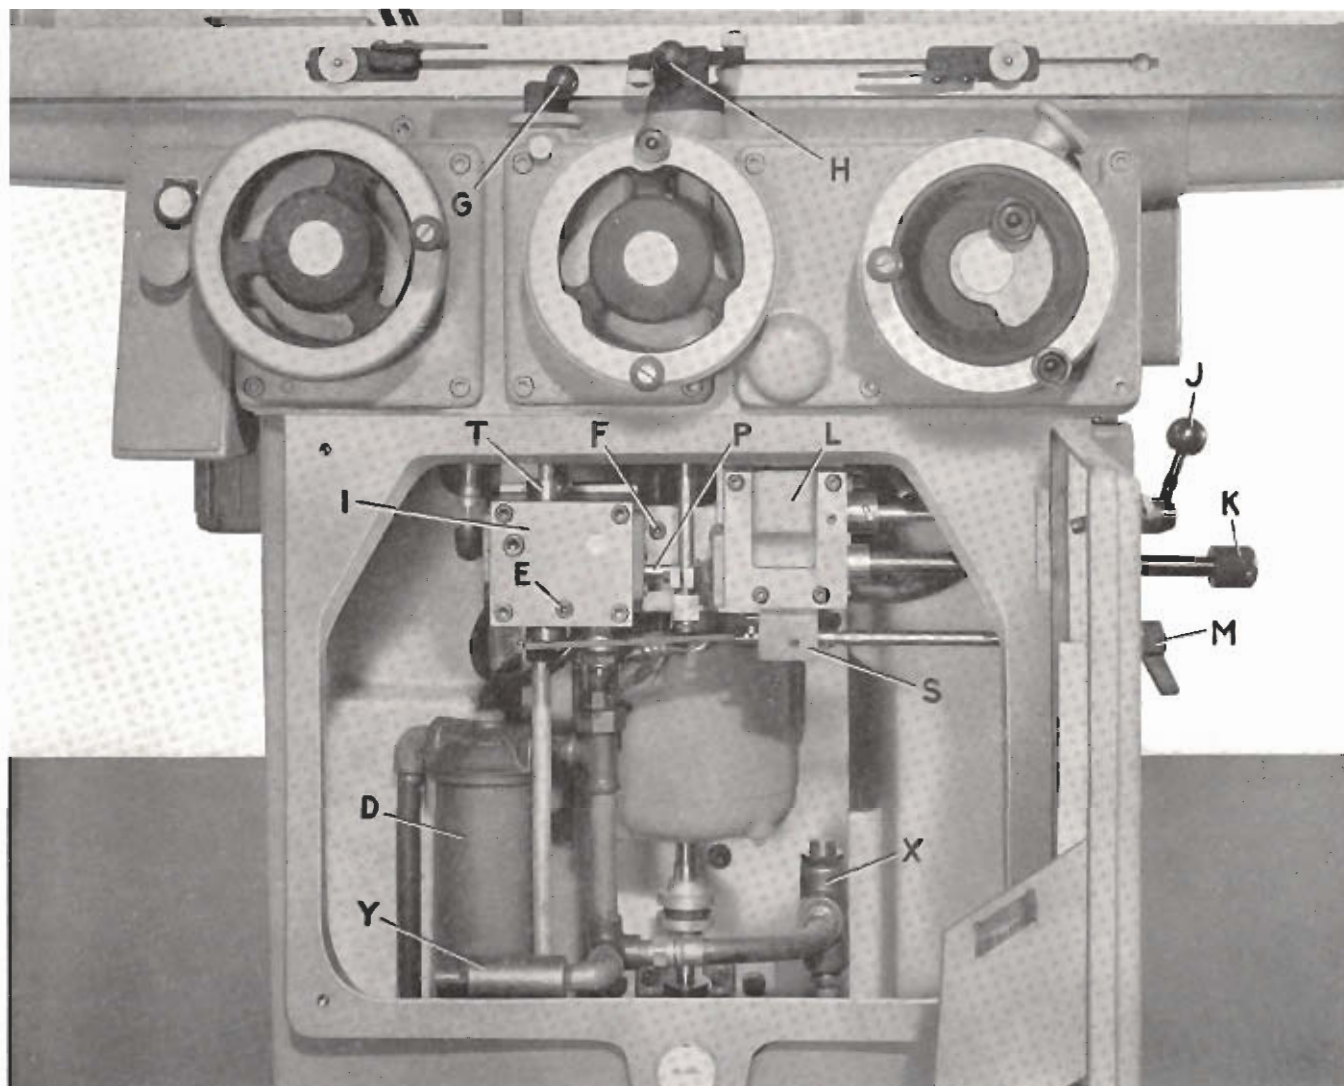

Fig. 17. Front Compartment Reveals Hydraulic System.
*Refer to Figure 17 and the full color schematic diagram on page 22 for identification of parts and check points mentioned in the copy.